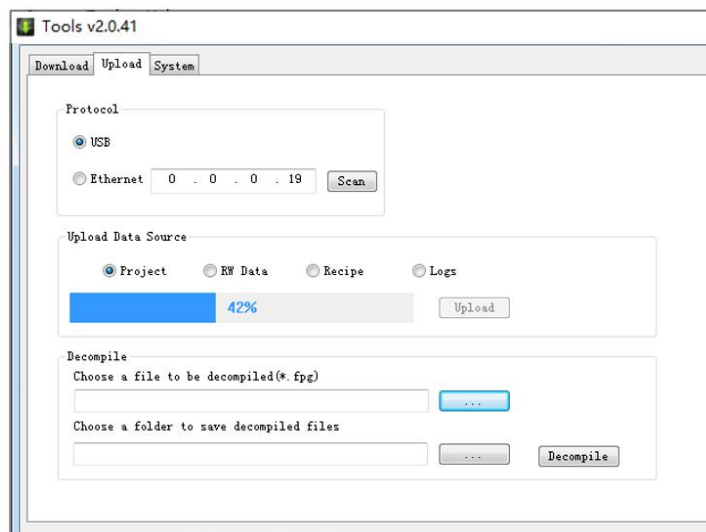
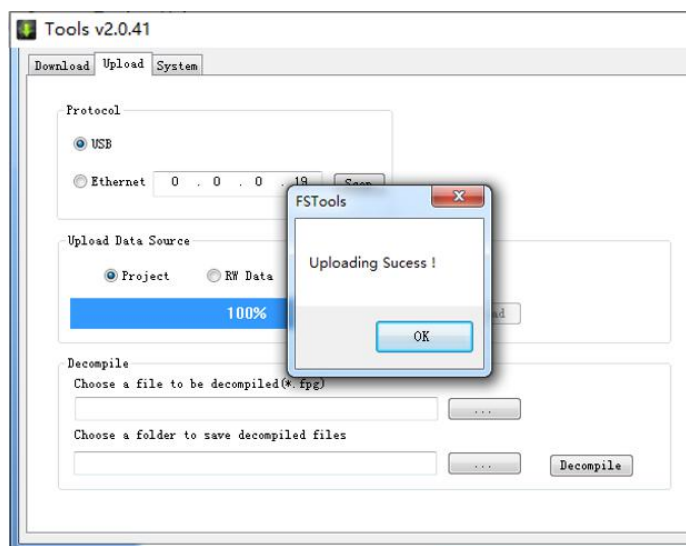

Fig. 23
Fig. 24
③ Select the project uploading path and save the file name, and click “Save”.
④ If the screen is correctly connected to the computer, the packaging operation will be started for uploading. Select the “Project” option, and click the “Upload” button, as shown in Fig. 23. When the uploading operation is finished, the “Uploading Success!” dialog box pops up, as shown in Fig. 24. Then click the “OK” button.